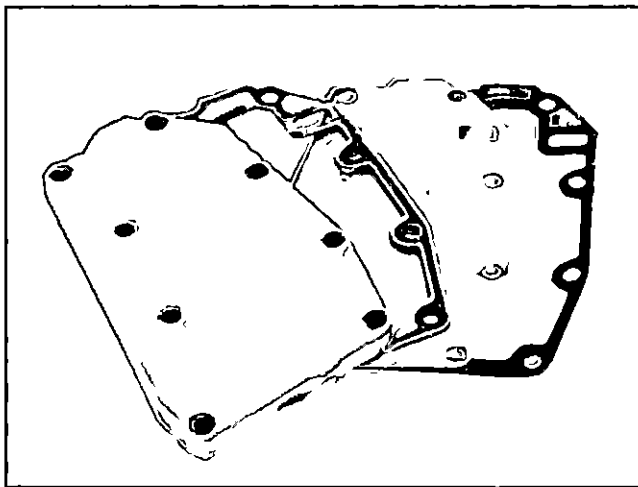

Figure 16. Removing Exhaust Cover.
- 7 Remove eight (8) hex head screws securing exhaust cover to power head Remove exhaust cover, plate, and two (2) gaskets Figure 16 Discard gaskets